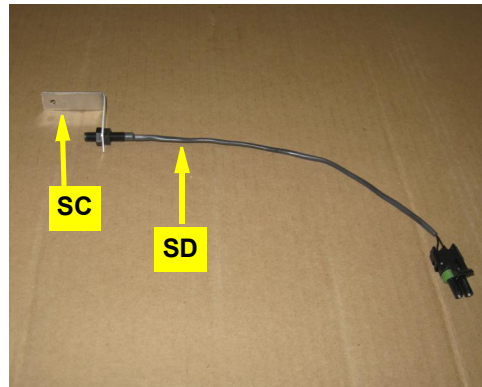

Figure 1c: Sensor installed in sensor bracket
- c. Connect sensor SD to bracket SC (Figure 1c). (You will connect SD to ECU SWS cabling in the ECU installation section.)